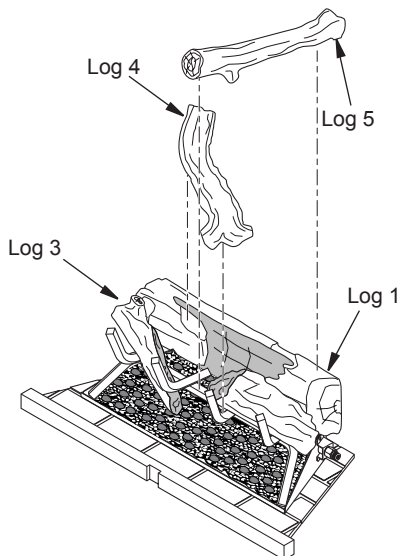
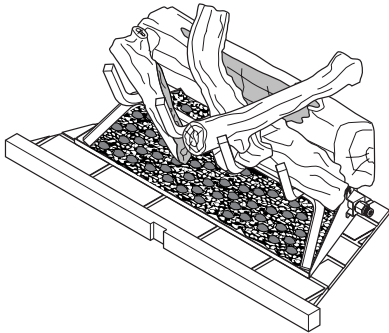

Figure 27 - Installing Logs 4 and 5
Figure 28 - Logs Installed
4. Place top of log 4 into notch on log 1. Rest log 4 on center of grate as shown in Figure 27.
5. Place top of log 5 into notch on top right of log 1 (see Figure 27). Rest log 5 between two middle grate fingers as shown in Figure 28, page 16